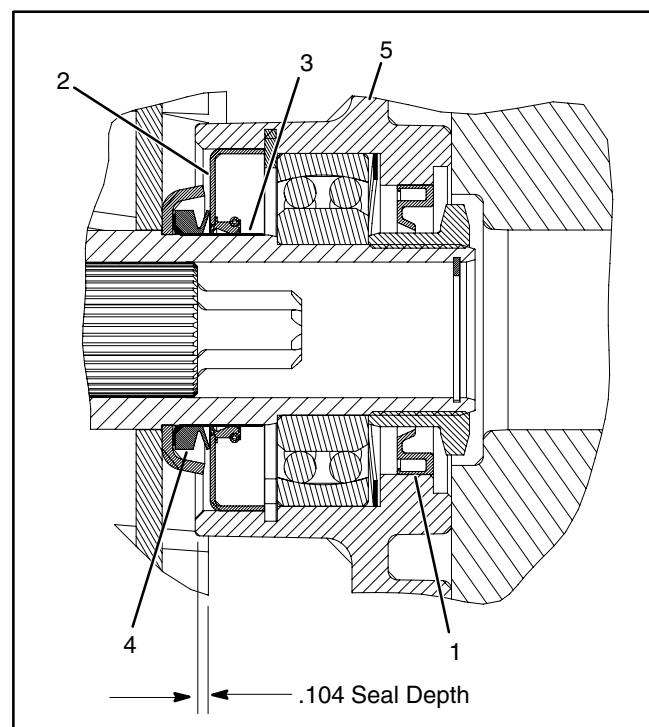

Figure 20
2. Remove the retaining ring (14) securing the bearing in the side plate. Remove the bearing (12). Inspect the bearing to insure that it spins freely and has minimal axial play. The bearing balls must be free of deformation and scoring. Replace the bearing if necessary.
3. Remove the wave washer (15).
5. Insert the wave washer (15) into the side plate.
6. Pack the bearing (12) with Mobil High Temperature HP or equivalent grease. Insert the bearing into the side plate against the wave washer.
7. Press the retaining ring (14) into the groove, slightly compressing the bearing and wave washer.
8. Pack the cavity of the inner seal (13) with Mobil High Temperature HP or equivalent grease.
9. Using inner grease seal installation washer (Toro Part Number 104-0532) press the inner seal (13) into the side plate until the washer is flush with the outer edge of the side plate bore. Remove the washer. When properly installed, the seal should be positioned .104 in. below the inner edge of the side plate bore.
10. Press the outer seal (9) into the side plate until it is flush with the the outer edge of the side plate bore.
**IMPORTANT: The outer grease seal (9) should be installed so the lip is facing out. This helps keep contamination from entering, and allows grease to vent or purge out if necessary (Fig. 20).**
11. Fill remaining voids, behind inner grease seal (13) and outer grease seal (9) lips with Mobil High Temperature HP or equivalent grease.
1. Remove the inner grease seal (13) and outer grease seal (9) from the side plate (10).
2. Remove the bearing (12). Inspect the bearing to insure that it spins freely and has minimal axial play. The bearing balls must be free of deformation and scoring. Replace the bearing if necessary.
3. Remove the O-ring (11) from the groove in the side plate bore.
5. Insert the O-ring (11) into the groove in the side plate. Apply a light coating of grease onto the O-ring, after it is installed.
6. Pack the bearing (12) with Mobil High Temperature HP or equivalent grease. Insert the bearing into the side plate until it is against the bottom of the bore.
7. Pack the cavity of the inner seal (13) with Mobil High Temperature HP or equivalent grease.
8. Using inner grease seal installation washer (Toro Part Number 104-0532) press the inner seal (13) into the side plate until the washer is flush with the outer edge of the side plate bore. Remove the washer. When properly installed, the seal should be positioned .104 in. below the inner edge of the side plate bore.
9. Press the outer seal (9) into the side plate until it is flush with the the outer edge of the side plate bore.
10. Fill remaining voids, behind inner grease seal (13) and outer grease seal (9) lips with Mobil High Temperature HP or equivalent grease.
5. Using an appropriate I.D. tube or sleeve, press the speedi sleeve onto the reel shaft until it bottoms out on the spider cup (Fig. 20).
6. Slide the V-ring onto the reel shaft with the thick shoulder of the V-ring facing inward (Fig. 20).
7. Fill the drive coupling (4) 1/2 to 1/3 full with Mobil High Temperature HP or equivalent grease. Also, coat the outside of the drive coupling with grease.
8. Install the retaining ring (5). Make sure it is seated into the groove.